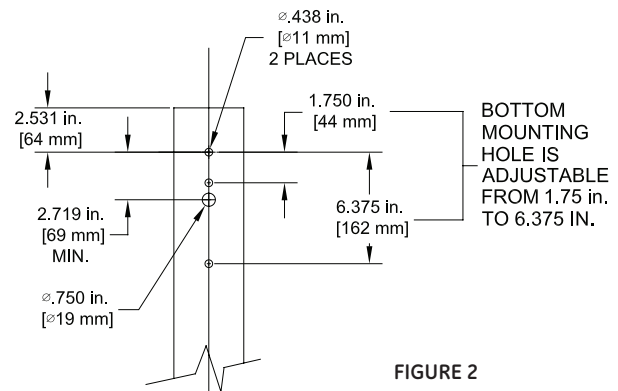

FIGURE 2
This luminaire has been configured to mount to a round poles 2.38 to 6 inches (60-152 mm) in diameter. Hole pattern on round pole shall be in accordance with Figure 2.
- For legacy diagonal bolt pattern (Figure 5.) set nut plate to 4.58" (116 mm). For all other mounting patterns reference Figure 2.